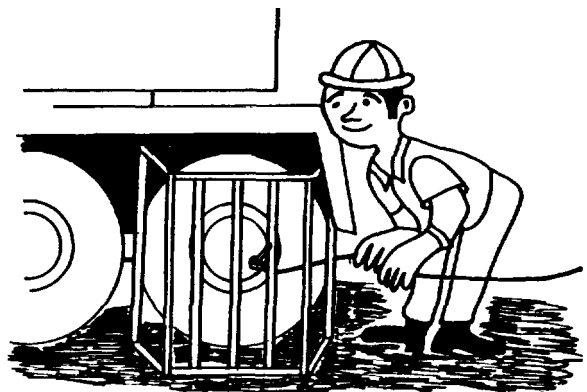

Fig. 2. Use A Guard For Safety
- (18) Lubricate with approved rubber lubricant such as thin vegetable oil soap solution, or "Ruglyde".
- (19) Use a clip on check and extension hose with a remote control valve and pressure gauge, long enough to allow you to stand to one side.
- (20) Center tire properly on rim before inflating.
- (21) Securely lock wheel down, or place assembly in a safety cage or portable safety device before attempting to inflate tire to seat beads (Fig. 2).
- (22) Never inflate beyond recommended bead seating pressure. Stand clear of tire when inflating.
- (23) Check for proper flange & lock ring seating.